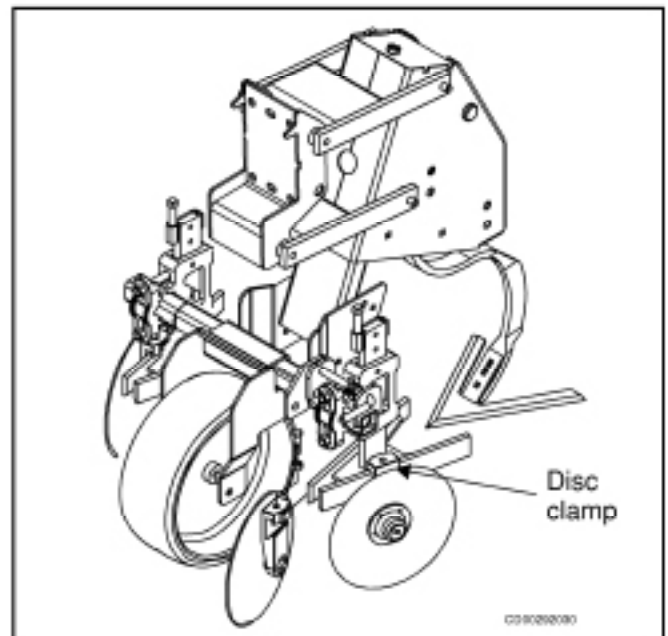

**Figure 18** Adjusting Support Wheels
1. Shorten the screwjack to lower to toolbar. Lengthen the screwjack to raise the toolbar. See Figure 18.